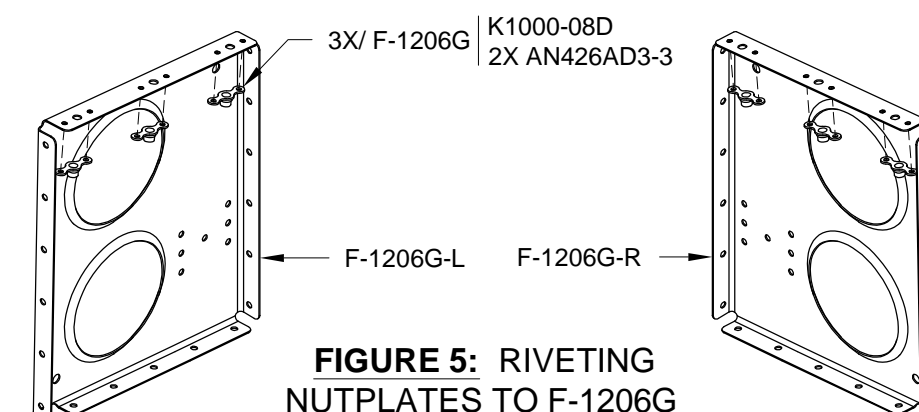

FIGURE 5: RIVETING NUTPLATES TO F-1206G
Step 13: Dimple #40 the nutplate attach holes in the top flange of F-1206G-L & -R. See Figure 5.